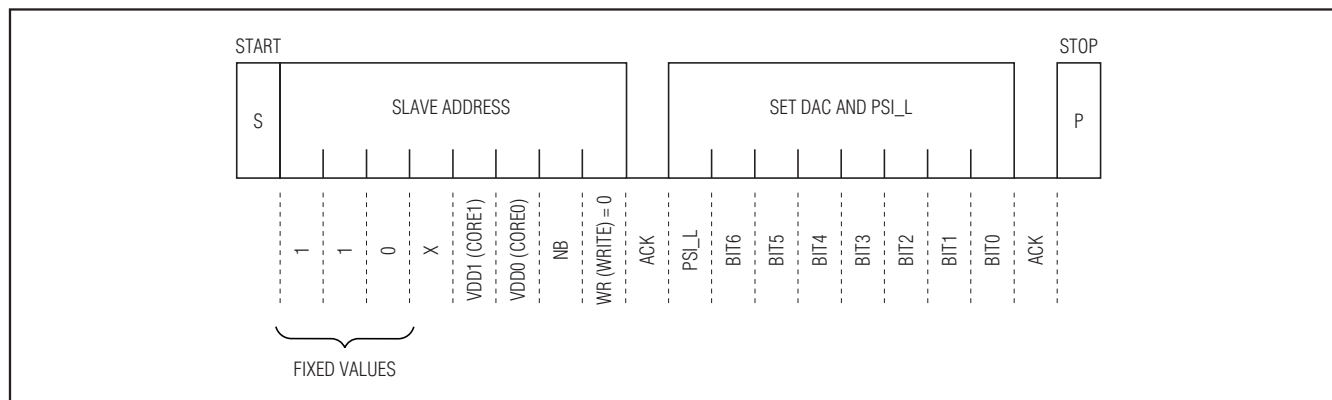

Figure 13. SVI Bus Data Transfer Summary
A complete command consists of a START condition (S) followed by the MAX17080's slave address and a data phase, followed by a STOP condition (P). For the slave address, bits 6:4 are always 110 and bit 3 is X (don't care). The WR bit should always be 1 since read functions are not supported. Figure 13 is the SVI bus data-transfer summary. Table 8 is a description of the SVI send byte address and Table 9 describes serial VID 8-bit field encoding.